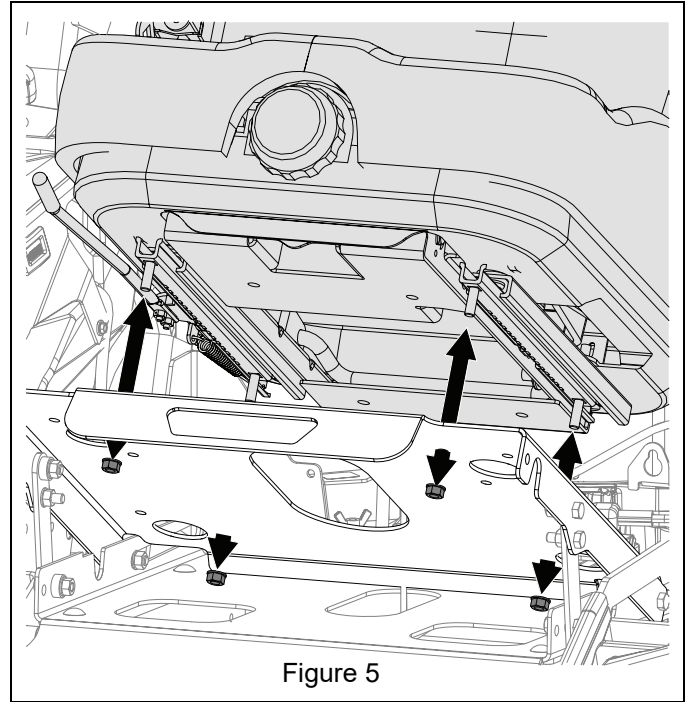

Figure 5
5. Remove and discard four flange nuts retaining seat to seat plate and remove seat. Discard seat or retain for use without air ride seat kit. See Figure 5.